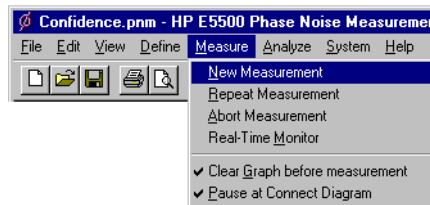

Figure 9-9 Selecting a New Measurement
- 1 From the **Measure** menu, choose **New Measurement**. See Figure 9-9.